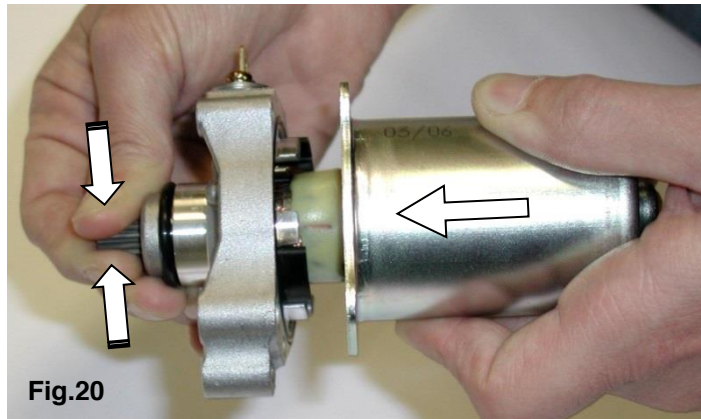

Fig.20
- INSERT THE STARTER DRUM ON THE HEAD BEING CAREFUL TO PREVENT THE ROTOR FROM ROTATING AND TO PREVENT THE BRUSHES FROM FALLING OUT OF THEIR SEAT (see Fig. 20).